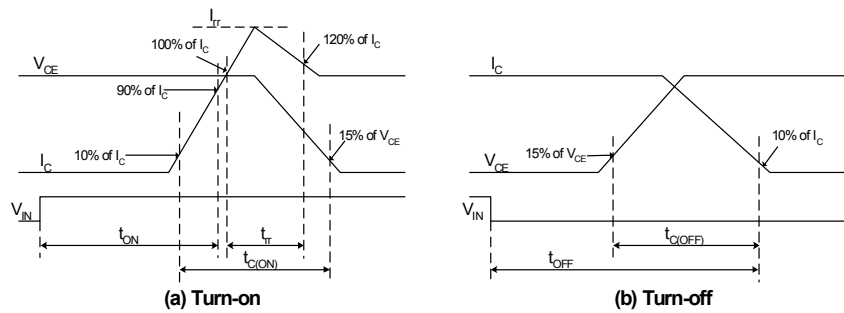

Fig. 4. Switching Time Definition
- tON and tOFF include the propagation delay time of the internal drive IC. tC(ON) and tC(OFF) are the switching time of IGBT itself under the given gate driving condition internally. For the detailed information, please see Fig. 4